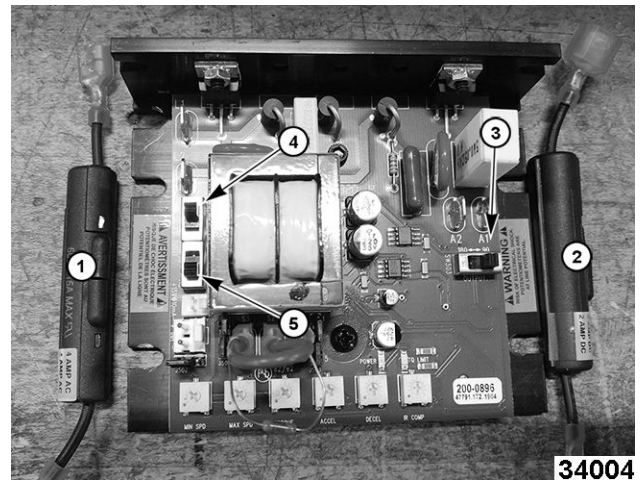

Fig. 74
### 2ND GENERATION CONTROLLER BOARD SHOWN IN Fig. 74
- Fuse - 1, Fig. 74, 4 amp AC.
- Fuse - 2, Fig. 74, 2 amp DC.
- 4 and 5 switches shown in Fig. 74 are both set at 115V.
- 3 switch shown in Fig. 74 should be set at 90.